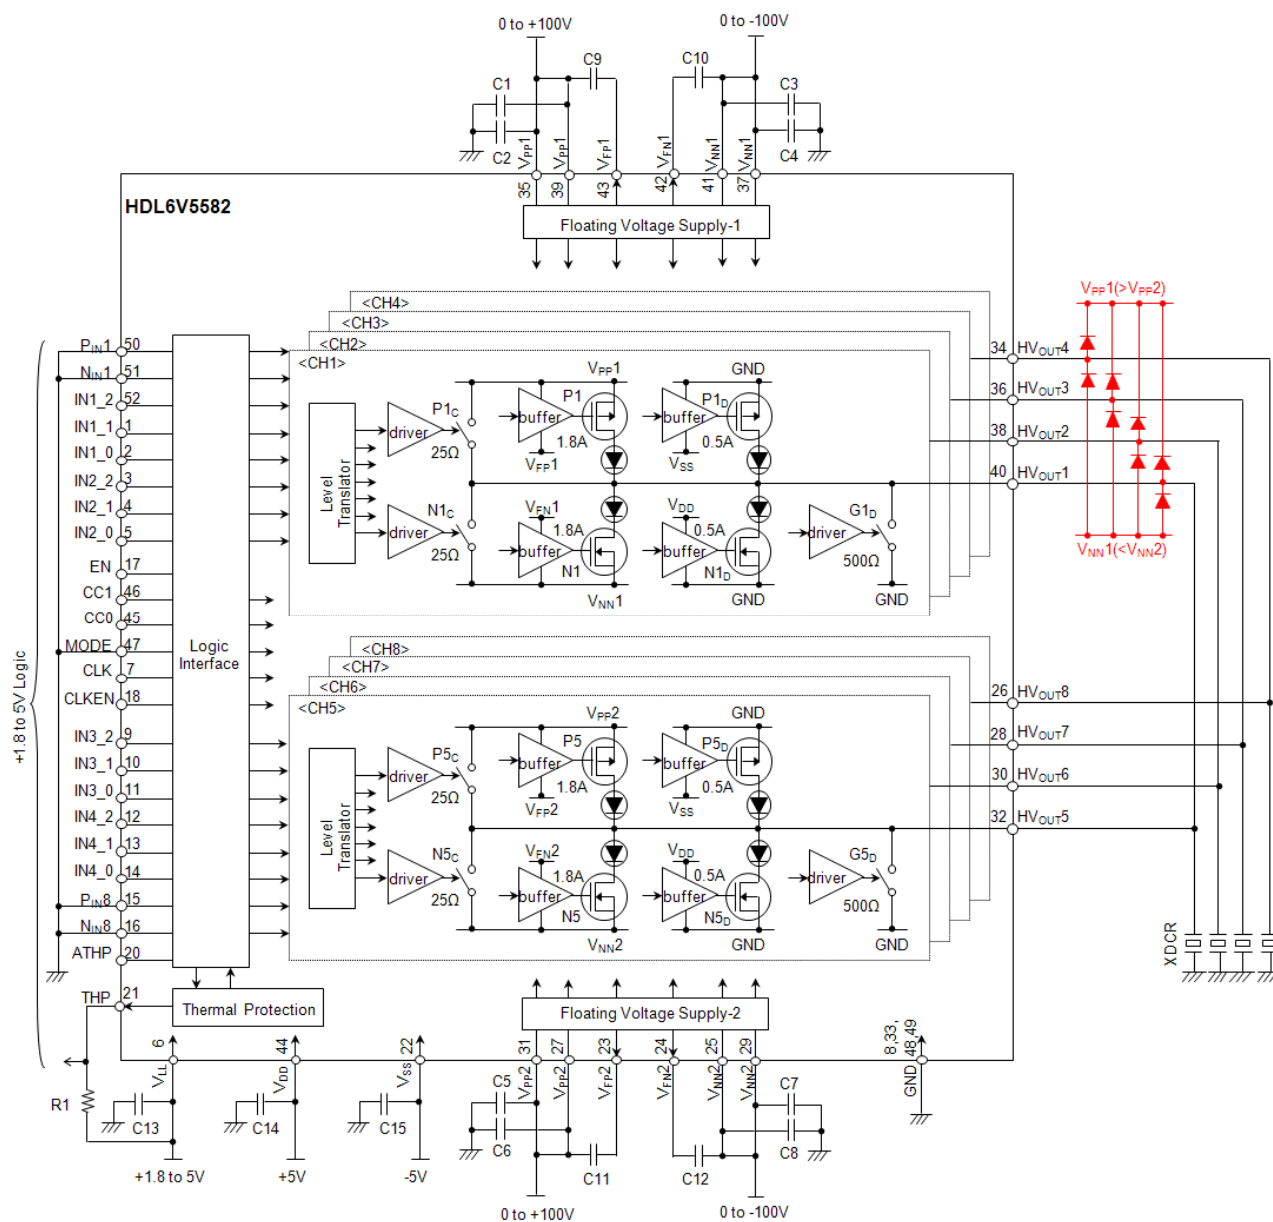

Fig. 2-(b) Typical Application Circuit-2
5. **[PRECAUTION]** External high-voltage clamp diodes between  $HV_{OUTX}$  and  $V_{PP1}/V_{NN1}$  (highest voltage) as shown in Fig.2-(b) are strongly recommended to avoid excessive voltage overshoot caused by a reflection from a probe.